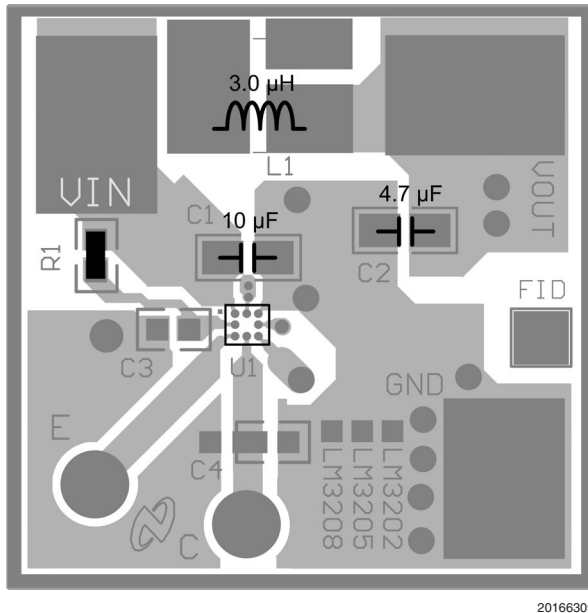

FIGURE 5. Evaluation Board Layout
**Note:** The evaluation board shown in *Figure 5* for the LM3208 was designed with these considerations, and it shows good performance. However some aspects have not been optimized because of limitations due to evaluation-specific requirements. The board can be used as a reference. Please refer questions to a National representative.